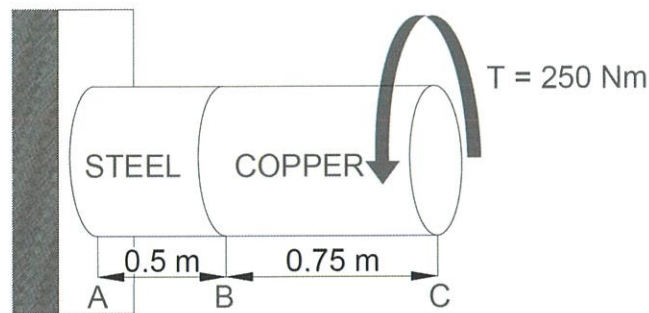

Figure 4(c) / Rajah 4(c)
- (c) Figure 4(c) depicts steel bar with a diameter of 50 mm and a length of 0.5 m connected in series to a copper bar. The copper bar has same diameter with steel bar and their length of 0.75 m. Both the bar carries a torsional load of 250 Nm. Consider the modulus of rigidity for G_{copper} is 45 GN/m² and G_{steel} is 78 GN/m². Compute: